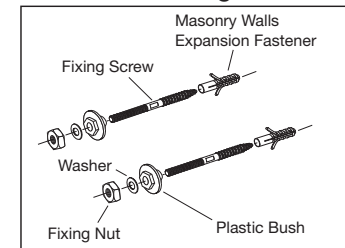

Fig. 2
- 3- Insert expansion fasteners into the drilled holes in masonry wall. Screw Fixing Screws into the wall using the flats located on the screws section of the stud and spanner as shown in **Fig. 2**.